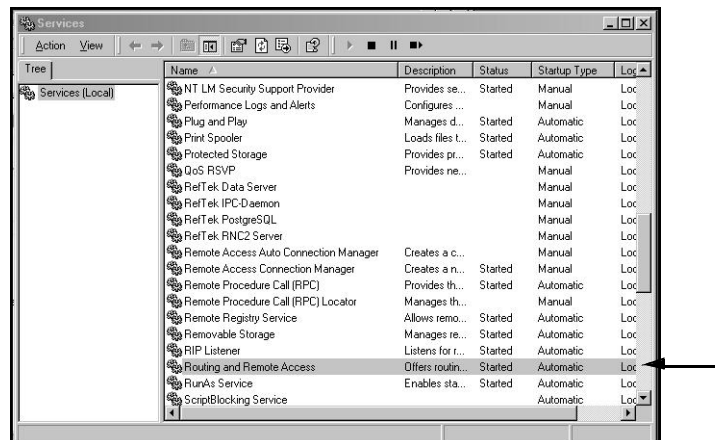

Figure 39 RAS Started
10. Click **Next>** when ready (Figure 39).